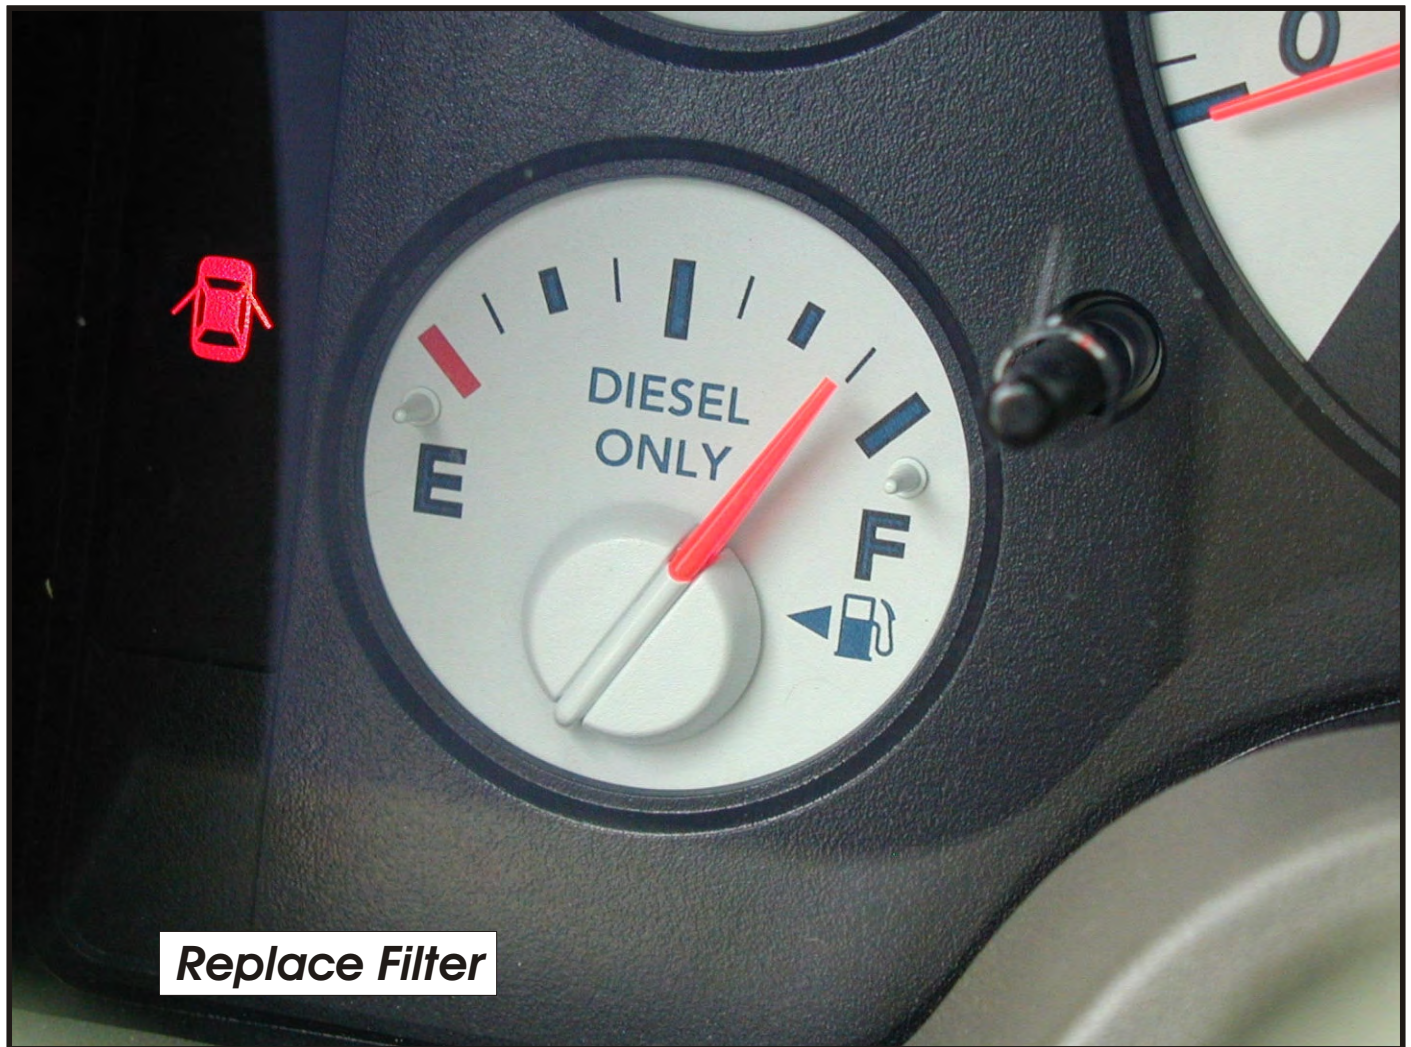

Figure 6
- (4) Water In Fuel, warning lamp will be illuminated, (Diesel Only) (Figure 6).
- (3) Replace Fuel Filter (Figure 6).